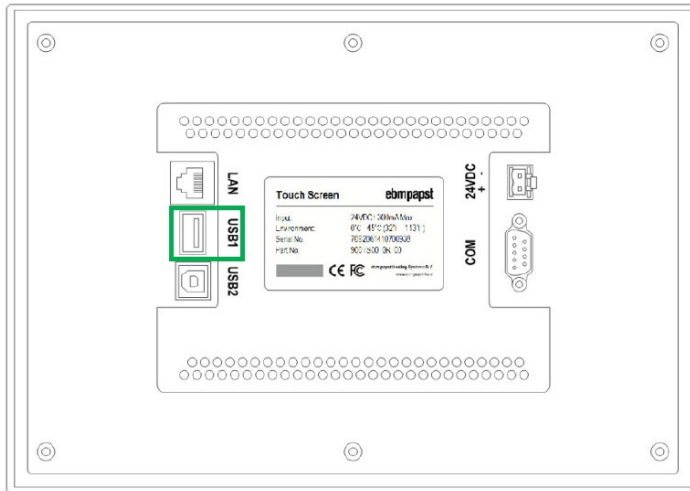

Figure 5
1. With the touchscreen powered off, insert the USB flash drive into the USB 1 port (fig. 5).